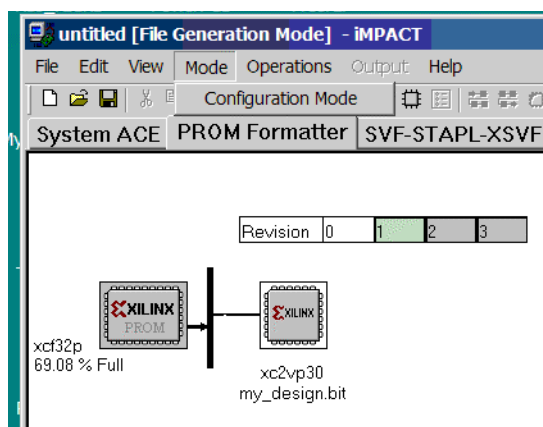

Figure B-10: Switching to Configuration Mode
14. After iMPACT successfully creates the MCS file, select Configuration Mode from the Mode menu as shown in Figure B-10.